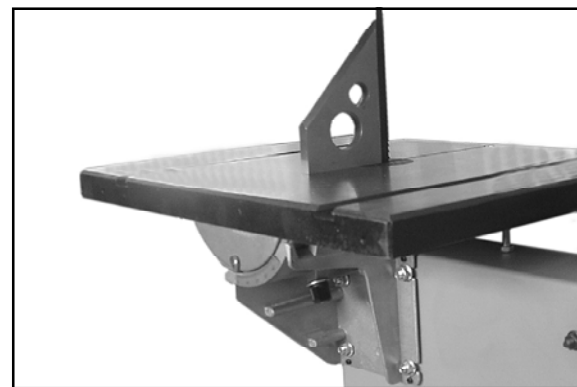

Fig. 12
- Tighten the flange nuts and recheck the saw blade and the table for square. (See Fig.12)